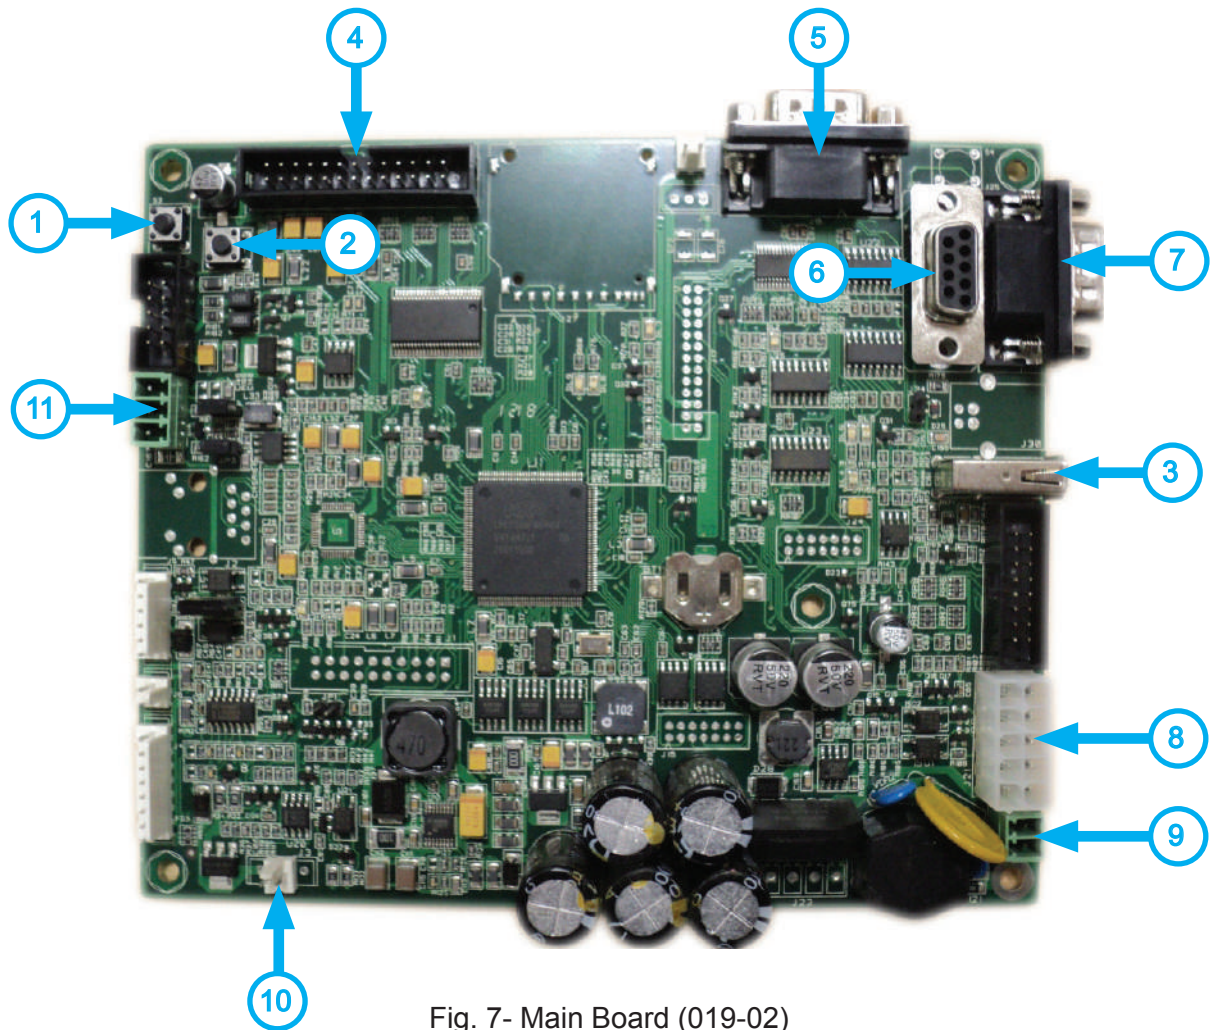

Fig. 7- Main Board (019-02)
**ATTENTION!** To maintain proper settings for the refrigeration unit it is important that temperature sensor 3 should be installed properly. It should be properly clamped on the second last bend of the evaporator, as shown in figure 7. The sensor must be installed before the refrigeration unit is fitted in the Machine. After the placement of the refrigeration unit inside the Machine the Sensor's connector must be connected to the sensor connection strip.